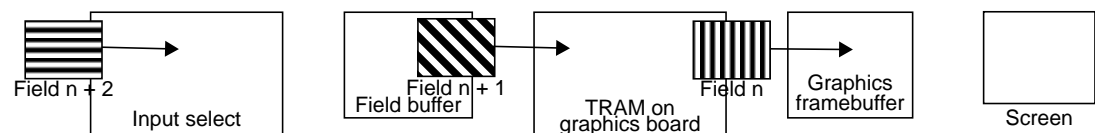

Figure 9-3 Video Delay Through Graphics TRAM
3. During the video field time for field $n + 2$, field n is being transferred out of TRAM and into the graphics framebuffer, as diagrammed in Figure 9-3.